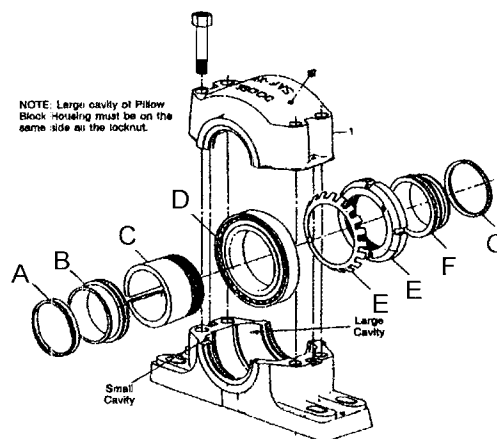

Figure 1
correctly installed one way, refer to **Figure 1** on page 28.
D. **Bearing:** make sure that the internal clearance has been written down. Install bearing on adapter sleeve, large end of tapered bore first. Locate bearing in proper position on shaft. Before tightening refer to **Figure 1.**
Be sure the housing is positioned as shown in Figure 1 view relative to adapter nut.